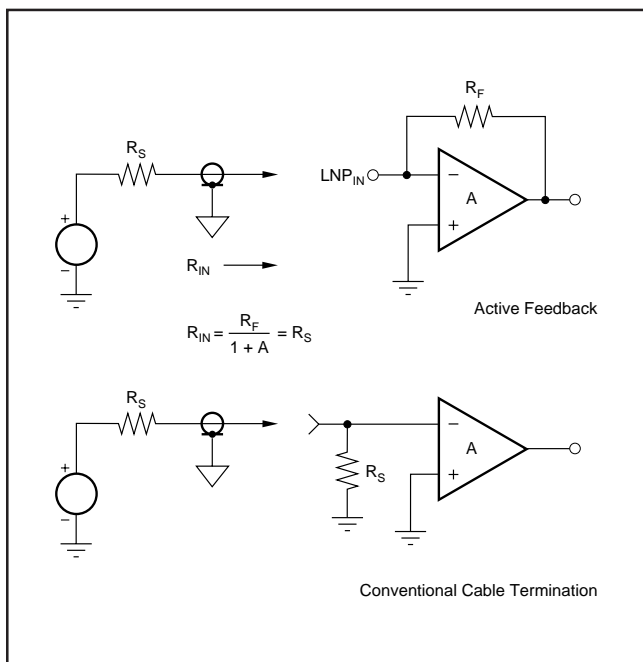

FIGURE 5. Configurations for Active Feedback and Conventional Cable Termination.
See Figure 5 for an amplifier using active feedback. This diagram appears very similar to a traditional inverting amplifier. However, the analysis is somewhat different because the gain A in this case is not a very large open-loop op amp gain; rather, it is the relatively low and controlled gain of the LNP itself. Thus, the impedance at the inverting amplifier terminal will be reduced by a finite amount, as given in the familiar relationship of Equation (3):